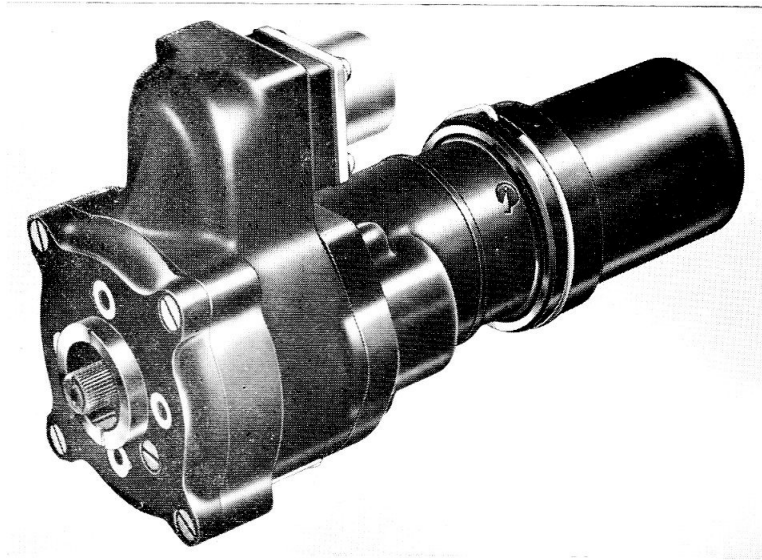

Fig. 1. Type C5521 actuator
1. This actuator (*fig. 1*) is generally similar to that described in the main chapter. The rotary movement of the output shaft is limited to 180 deg. by the two internal limit switches; on the external face of the end plate is a spigot marked by two sawcuts, which indicate the extremities of travel of a datum line cut in the end of the output shaft.